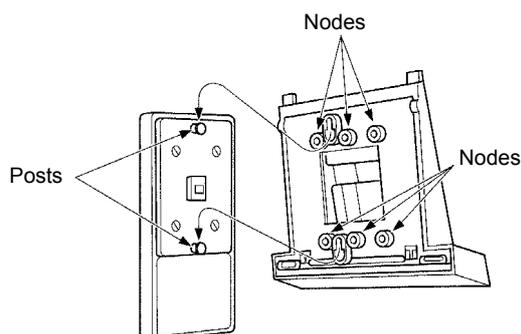

Figure 7-62 Attaching the Base Plate to the Wall
6. As illustrated in *Figure 7-62 Attaching the Base Plate to the Wall*, attach the base plate and base cover assembly (wide end down) to the posts on the locally provided and installed wall plate. Place locally provided screws in the nodes on the base plate and secure the assembly to the wall.